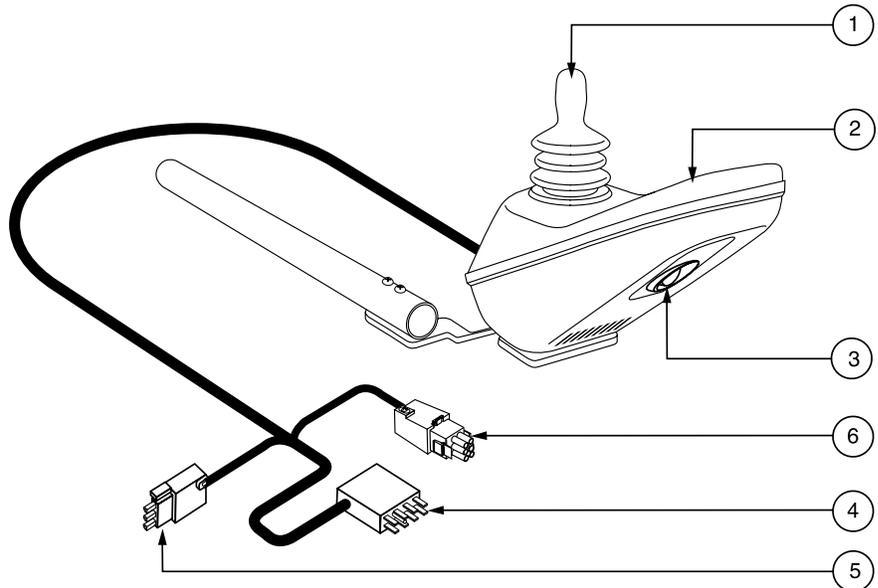

Figure 16. VSI Controller
3. Plug the off-board charger into the off-board charger socket on the controller. See figures 16 and 18.
The VSI controller is an integral electronic controller. All of the electronics necessary to operate the power chair are contained in one module. See figure 16.
You may use an off-board charger to charge the power chair batteries through the 3-pin socket located on the front of the VSI. See figure 16. If you use an off-board charger, the charger current should not exceed 12 amps. Contact your authorized Pride provider for more information.
This connects the VSI to the power chair's batteries, motors, and motor brakes. See figure 16.
This connects the VSI to the onboard battery charger. See figure 16. This connection provides an inhibit that disables the VSI when the battery charger is on. The charger inhibit connector is coded with colored dots. The dots are positioned so that you align the flat side of the male connector with the flat side of the female connector before making the connection.